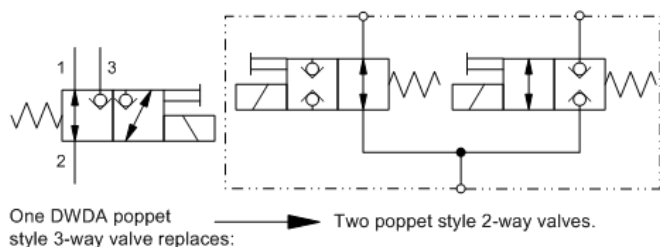

Figure 4.
- The DWDA can be used to take the place of two 2-position 2-way valves. (See Figure 4.)